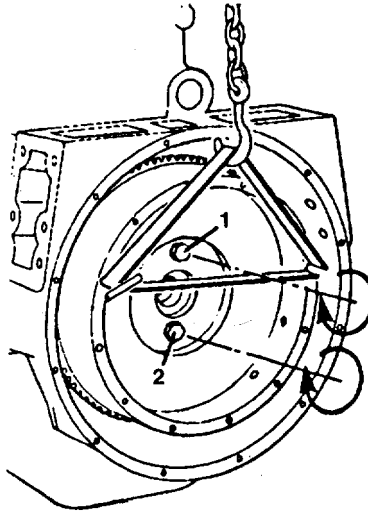

FIGURE 3-81. Removing Flywheel.
- (7) Remove the flywheel (FIGURE 3-81) .
- (8) Use a mandrel and a hammer to remove the pilot bearing from the flywheel.